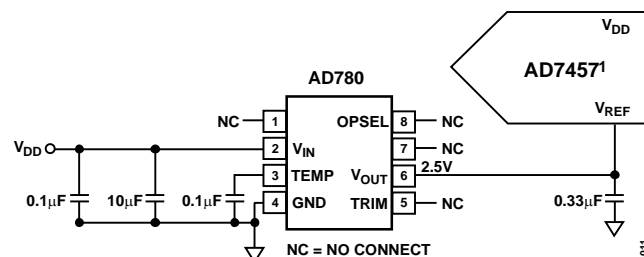

Figure 22. Typical V_{REF} Connection Diagram for $V_{DD} = 5\text{ V}$
0.33 μ F should be placed on the V_{REF} pin. Suitable reference sources for the AD7457 include the AD780 and the ADR421. Figure 22 shows a typical connection diagram for the V_{REF} pin.